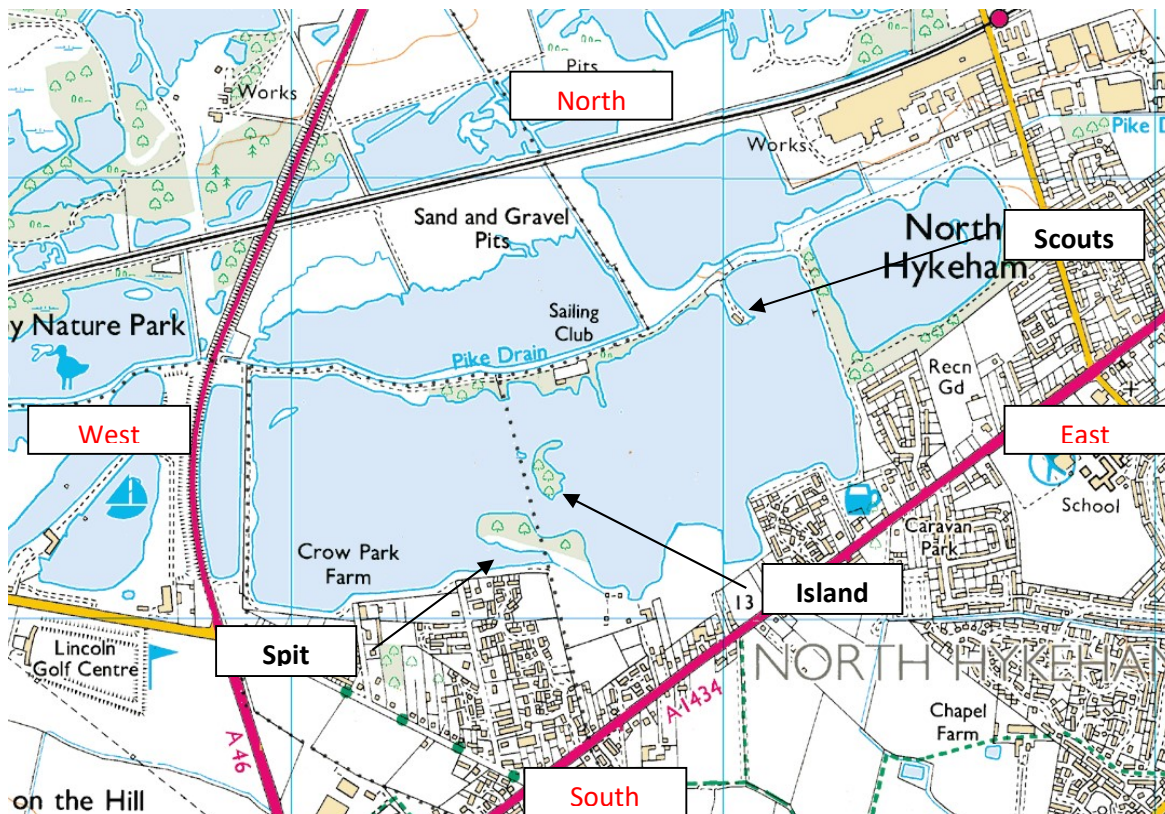

Figure 3.1 – Operating Areas
- 3.1.1 The operating areas are defined as shown in Fig. 3.1 above.
- 3.3.1 The spit shown in Fig 3.1 is formed by outfall from the gravel workings on the South bank. As it extends outwards below water level, all users should be aware there is a risk of grounding.